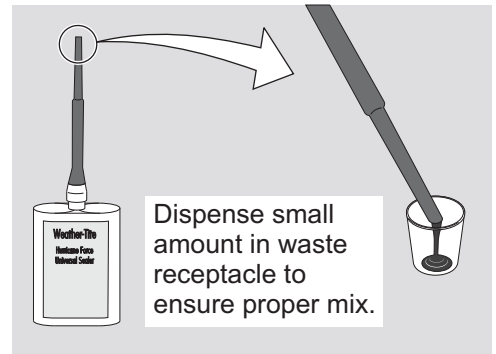

Figure 2-6: Ensuring proper mix of Universal Sealer
- H. Ensure a proper mix of the Weather-Tite Hurricane Force Universal Sealer by first dispensing a small amount in a waste receptacle. (See Figure 2-6)